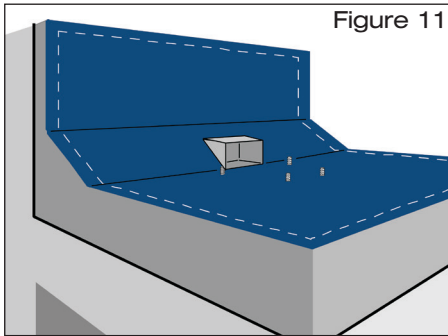

Figure 11
- 2.5 Unroll the second layer of the roof sealing sheet over the drain. Use a hole punch to make 8 mm diameter holes in the roof sealing sheet for the threaded bolts to pass through. Make a cut-out for the discharge pipe in the area of the scupper drain (Fig. 11). Roll back the second layer of the roof sealing sheet, weld the connecting sheet and the second layer of the roof sealing sheet in accordance with the laying instructions from the manufacturer of the roof sealing sheet.